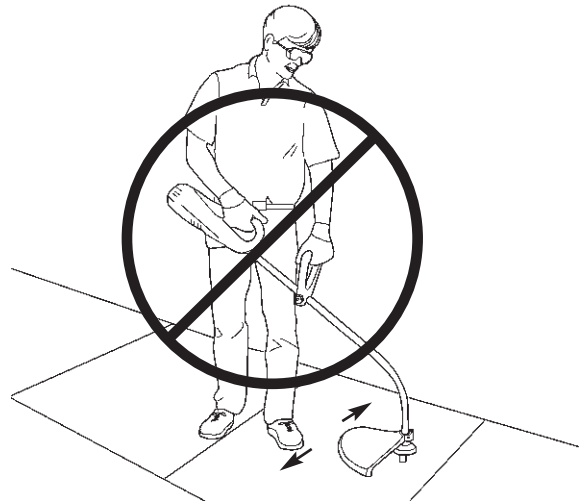

Fig. 7
6. **SWEEPING - DO NOT SWEEP WITH TRIMMER** (Figure 7)